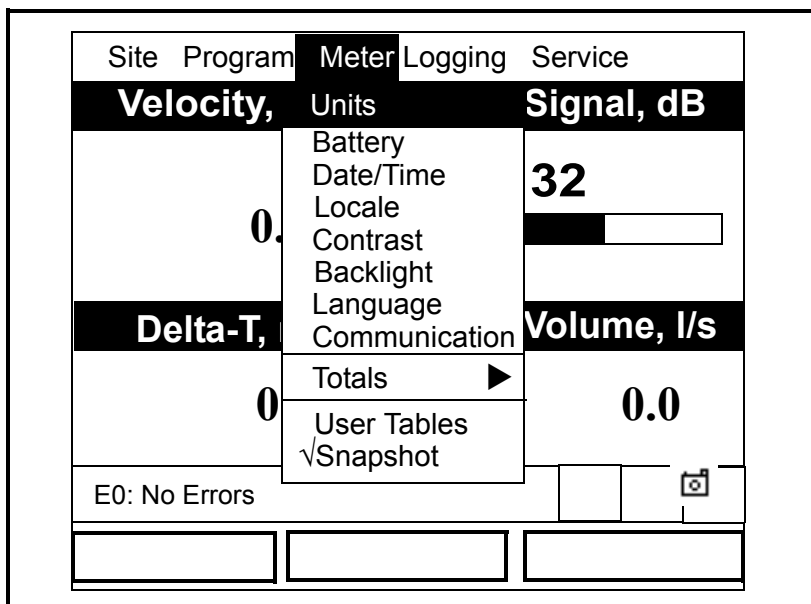

Figure 3-11: The Meter Menu Window
2. Scroll across until the *Meter Menu* tab is highlighted, and press [ENTER]. A window similar to Figure 3-11 below opens.